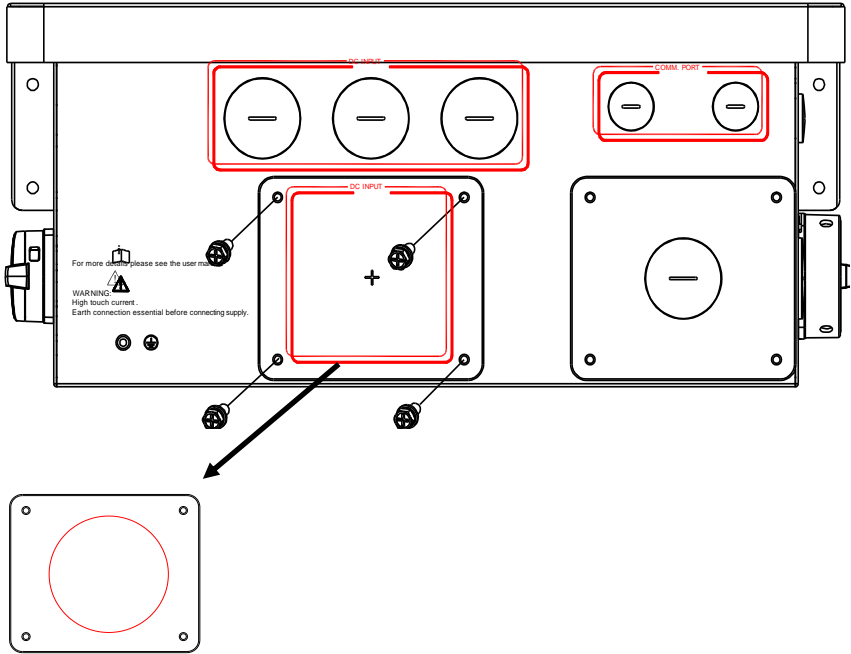

Fig 3-32 AC Input through single knock-out hole
- Using the removable gland plate.** Optionally, all AC conductors may be routed through a single large knock-out hole on a removable gland plate at the bottom of the wiring box. Refer to Fig 3-32. The plate may be drilled or punched for up to 2-1/2 inch conduit.